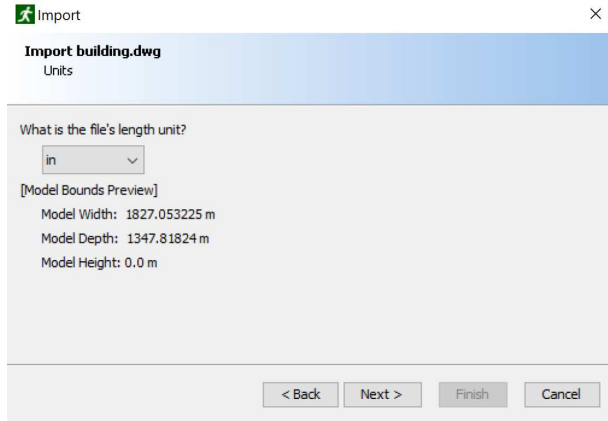

Figure 81. CAD import dialog (units)
2. After selecting a file, a step-by-step dialog will open as shown in Figure 81.